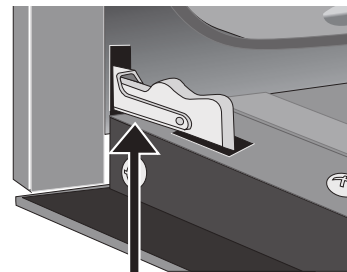

Figure 35: Door hinge locks
2. Pull the door hinge locks on both left and right door hinges down from the oven frame completely towards the oven door (See Figure 35). A tool such as a small flat-blade screwdriver may be required.
4. Push the door hinge locks up towards and into the oven frame on both left and right oven door hinges to the locked position (See Figure 35).